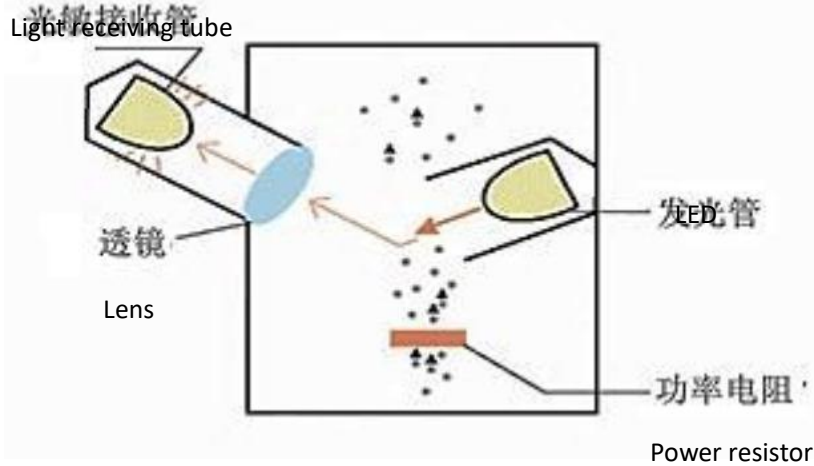

Fig 3. Principle schematic 1
1.1. Installation must be vertically. As shown in Figure 3, the power resistance of the air heating, hot air to promote the external gas into the optical path and promptly removed, the wrong